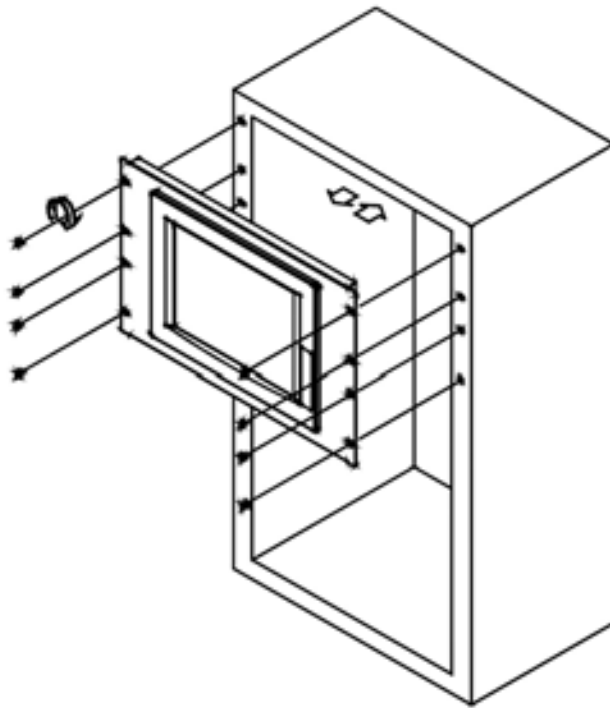

Figure 5-13: Install into a Cabinet/Rack
Step 5: Slide the monitor with the attached cabinet/rack bracket into a rack or cabinet (Figure 5-13).
Step 6: Once the monitor with the attached cabinet/rack has been properly inserted into the rack or cabinet, secure the front of the rack/cabinet bracket to the front of the rack or cabinet (**Figure 5-13**).